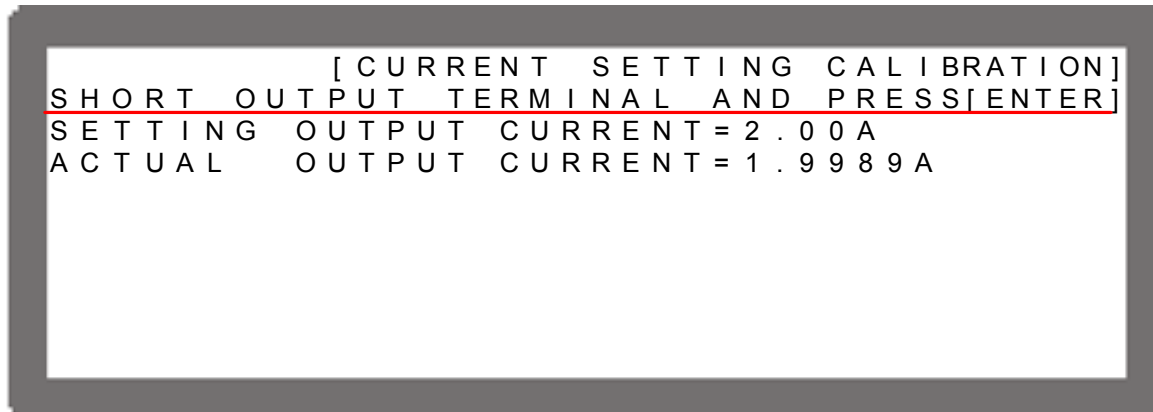

Figure 3-111
3. Press "ENTER" to confirm and entering into current calibration options as Figure 3-111 shows.